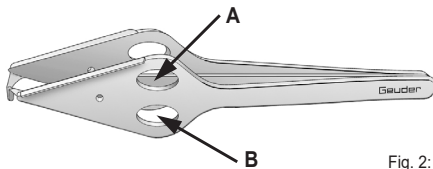

Fig. 2: pressure points A and B
- Open the sclera spreading forceps by pressure on point A (see fig. 2).
- Check the lock mechanisms by pressure on points A and B (see fig. 2).